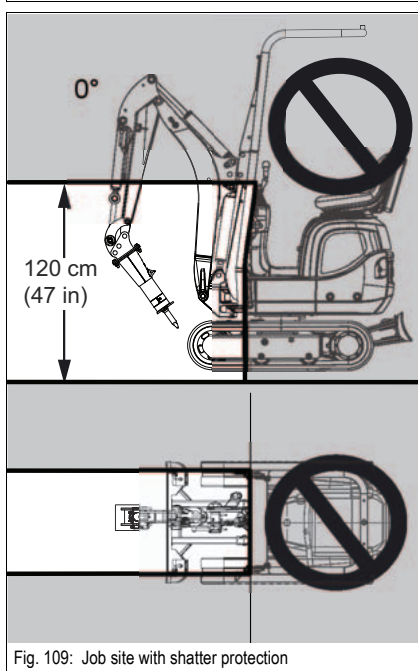

Fig. 109: Job site with shatter protection
- Note restricted work area (see Fig. 109).